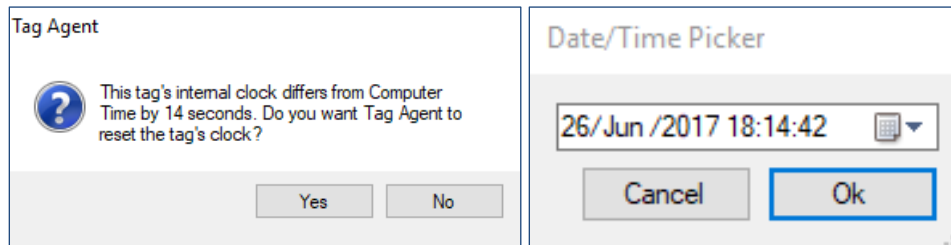

Figure 11-Pop-up boxes for Date/Time Picker.
- If the tag's internal clock needs adjusting, select "Yes" to the pop-up box that appears, as well as the Date/Time Picker (Figure 11 —sometimes the Picker hides in the upper left corner of the screen).
Use the “Download WCH” button on the Tag Agent top menu bar to download Benthic SPAT archival data (Figure 11). You’ll be prompted to save the .wch file to your computer. The file can then be uploaded into the Data Portal for decoding, analysis, and storage.